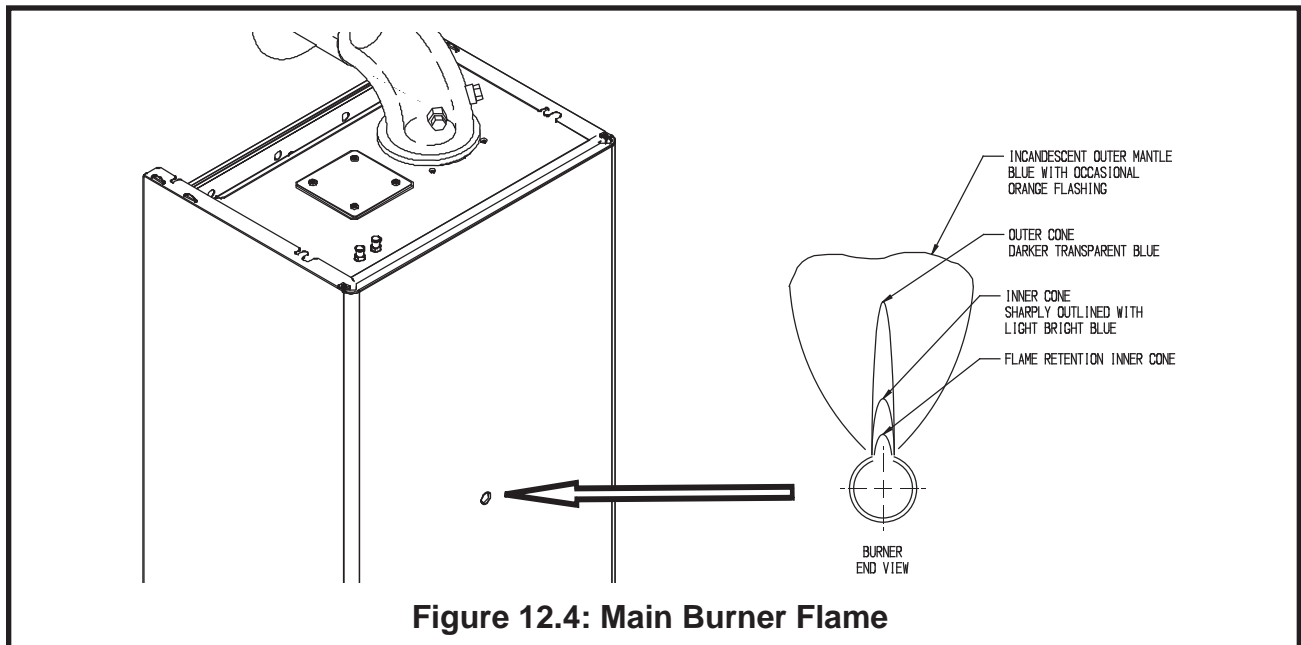

Figure 12.4: Main Burner Flame
- 7) Inspect the flame visible through the window. The flame should be stable and mostly blue (Fig.12.4). No yellow tipping should be present; however, intermittent flecks of yellow and orange in the flame are normal.